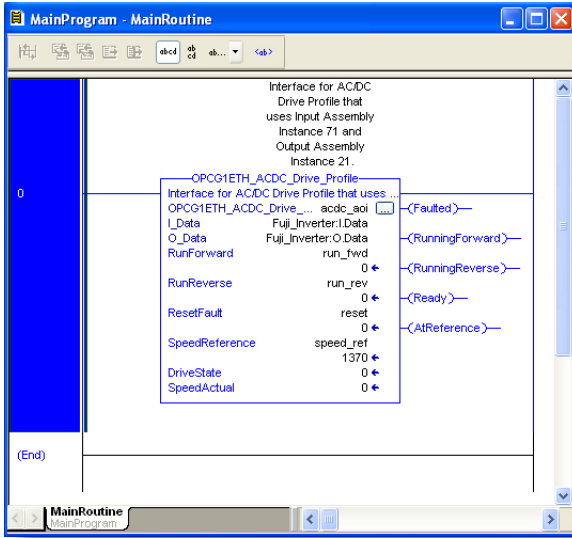

Figure 94: Configure AC/DC Drive Profile AOI
- 10) Edit the add-on instruction according to Figure 94.